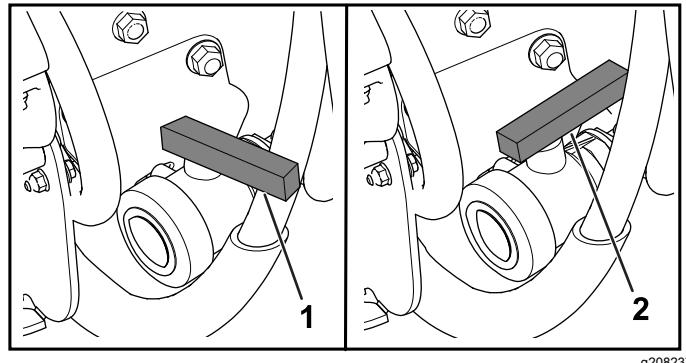

Figure 94
3. Open the valve to drain all unused material from the tank (Figure 94).
4. Close the drain valve (Figure 94).